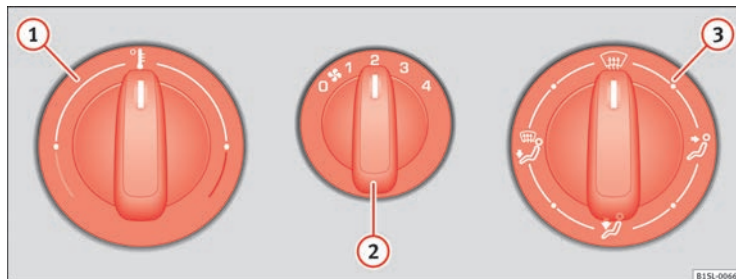

Fig. 102 In the centre console: Heating and ventilation system rotary control
Control button	Additional information. Heating and ventilation system ⇒ Fig. 102 and air conditioning system ⇒ Fig. 103.
- Set the fan ⇒ Fig. 102  to setting 1 or 2.
- Turn the temperature control ⇒ Fig. 102  to the centre position.
- Turn the air distribution control ⇒ Fig. 102  to the required position.